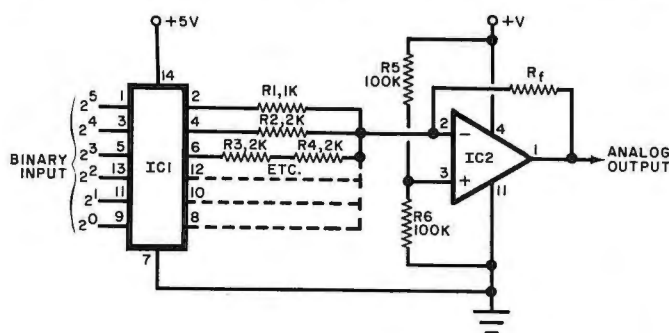

Fig. 6. Digital/analog converter circuit.
Recognizing that many of today's hobbyists are working with digital projects, reader Robert L. Schuman (R.R. #2, Winthrop, IA 50682) has suggested the circuit given in Fig. 6 as an inexpensive solution for those requiring a simple digital-to-analog (D/A) converter. Using only two IC's, a hex inverter ($IC1$) and an operational amplifier ($IC2$), the circuit accepts digital binary input pulses and converts these to an equivalent analog signal. In operation, the actual conversion process takes place in a weighted resistive divider network ($R1, R2, R3, R4$, etc.) connected to the hex inverter's output terminals and which, in turn, becomes part of the op amp's inverting input feedback/bias circuit. The output resistance for each binary digit from 2^5 (32) to 2^0 (1) is doubled in value so that the summed resistive output connected to the op amp is inversely proportional to the input binary signal, thereby insuring that the op amp's output is directly proportional to the original binary number.